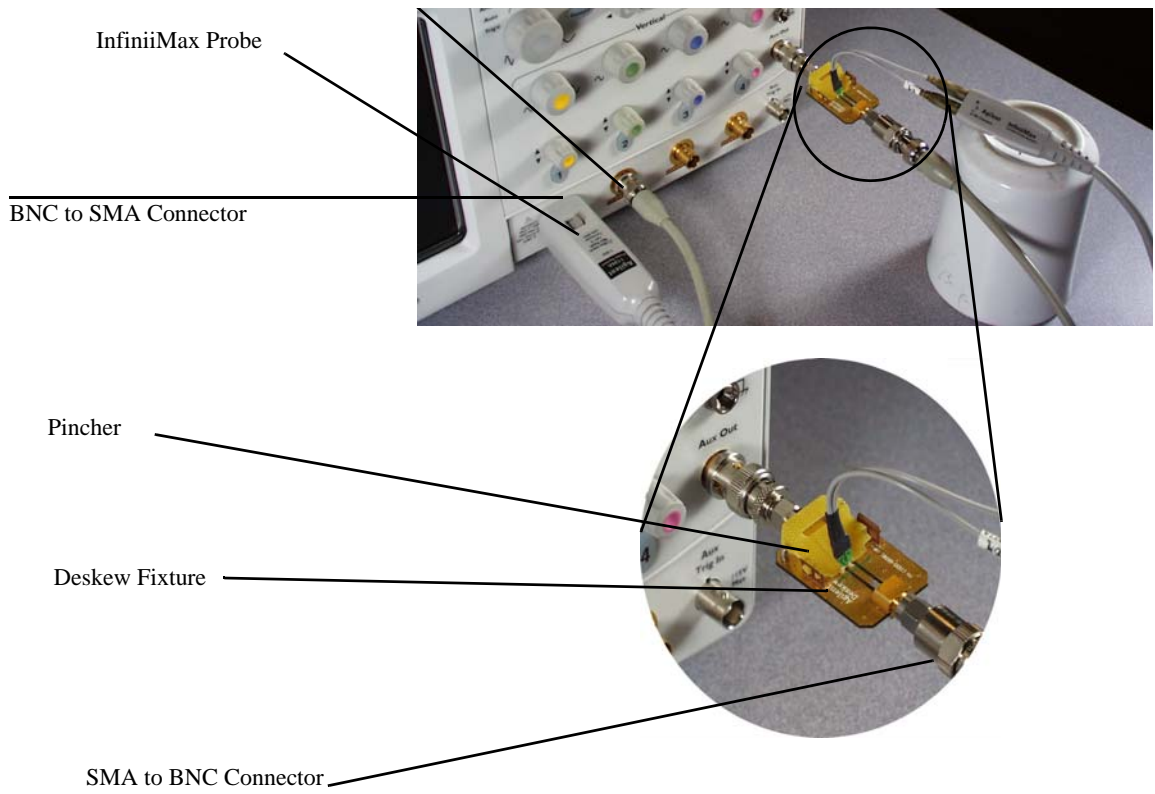

Figure 45 Connecting the Probe
- 1 As shown in **Figure 45** on page 73, connect BNC (male) to SMA (male) adapter to the deskew fixture on the connector closest to the yellow pincher.